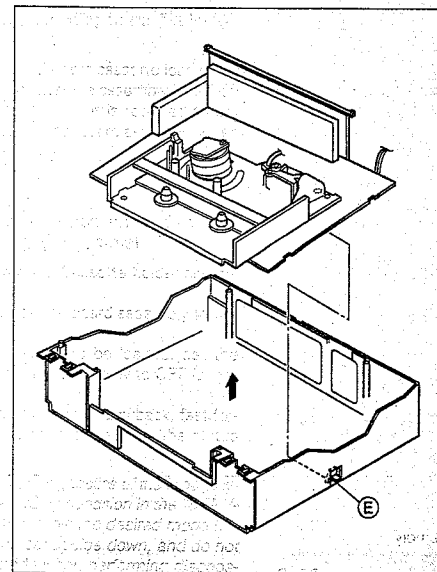

Fig. 1-4-2
- (6) Remove the hook (E) while holding the edge of the Main board, and remove the Main board and Main deck assemblies together. At this stage be careful of the power cord and prongs of the jacks on the back side. (See Fig. 1-4-2).